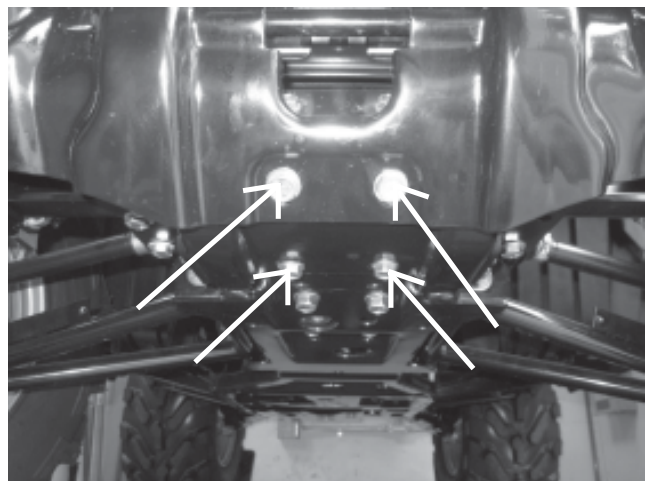
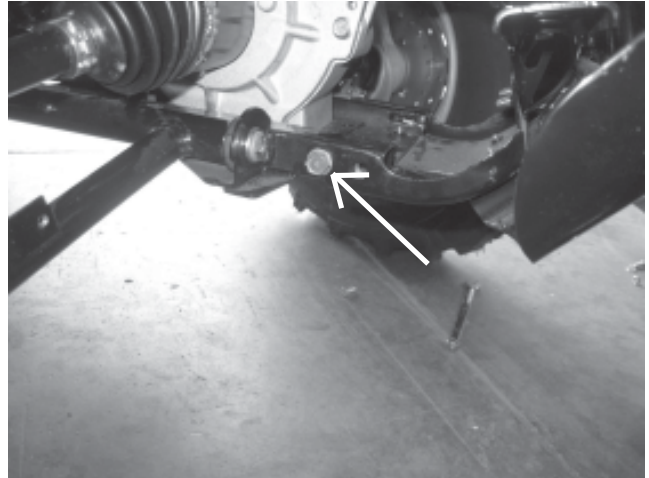

Figure 2
Figure 4
3. Loosen the front and front bottom frame bolts shown in Figure 2. Leave the bolts in the holes but make sure they are not protruding through the back of the sheet metal as they will get in the way while passing the channel through the frame.
5. Retighten the front and front bottom frame bolts shown in Figure 2. Remove the two side frame rail bolts (1 per side), see Figure 4. These will be used in the front hole in which Part B connects to the frame rail.